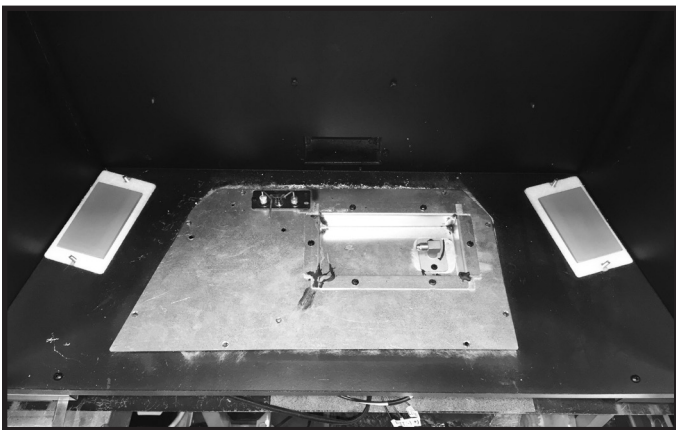

Figure 9
5. Center accent glass on each gasket. See Figure 9.